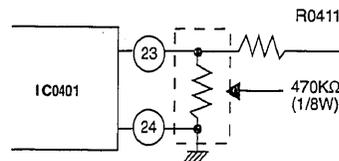

Fig. 1-4-1B
- (2) Connect IC0401 pin (23) to pin (24) through resistor 470 KΩ as shown below in figure 1-4-1B.